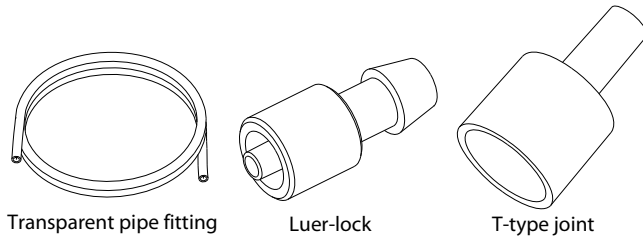
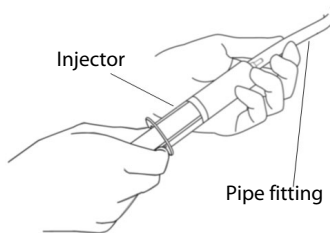

Figure 5-1 Disassembly of the insufflator tube
Figure 5-2 Use injector to clean the pipe fitting
1. Disassemble the pipe fitting to its basic structure. As shown in Figure 5-1, Figure 5-2, and Figure 5-3.
5. Use an injector to inject the cleanser into the pipe fitting, and thoroughly wash the pipe fitting to clean its inside surface. As shown in Figure 5-2.
4. Install the injector on the pipe fitting, and use the disinfectant solution to thoroughly wash the pipe fitting to clean its interior. As shown in Figure 5-2.
5. Install the injector on the pipe fitting, and inject air to eliminate water inside the pipe fitting. As shown in Figure 5-2.